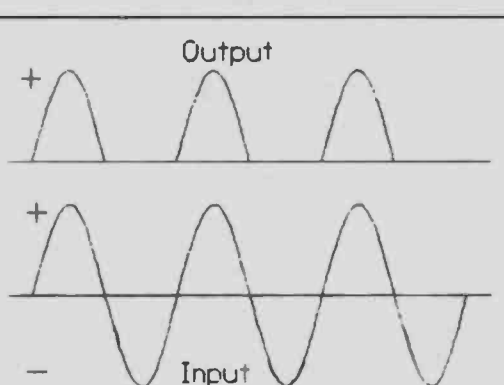
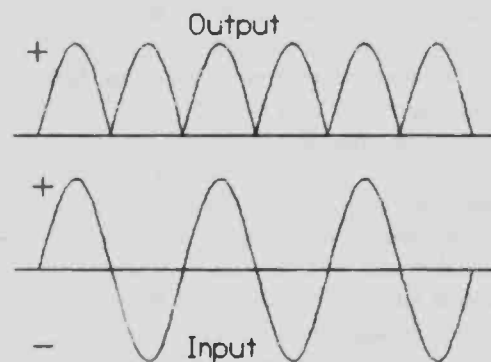

FIGURE 8-17: Output from single diode rectifier.
FIGURE 8-18: Output from full-wave diode bridge.
*Figure 8-17* shows the output from a simple, single diode rectifier. *Figure 8-18* shows the output from a full-wave diode bridge.